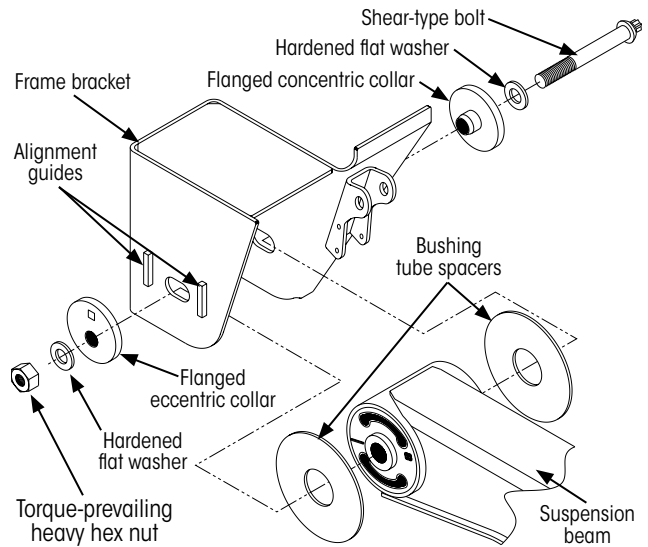

Figure 25: Installing suspension beam in frame bracket
- Place** the suspension beam Pivot Bushings into the frame brackets. At this time, install bushing tube spacers (Figure 25).
- Working from the inboard side of the trailer, **insert** the pivot bolt through the frame bracket toward the tires (Figure 25).